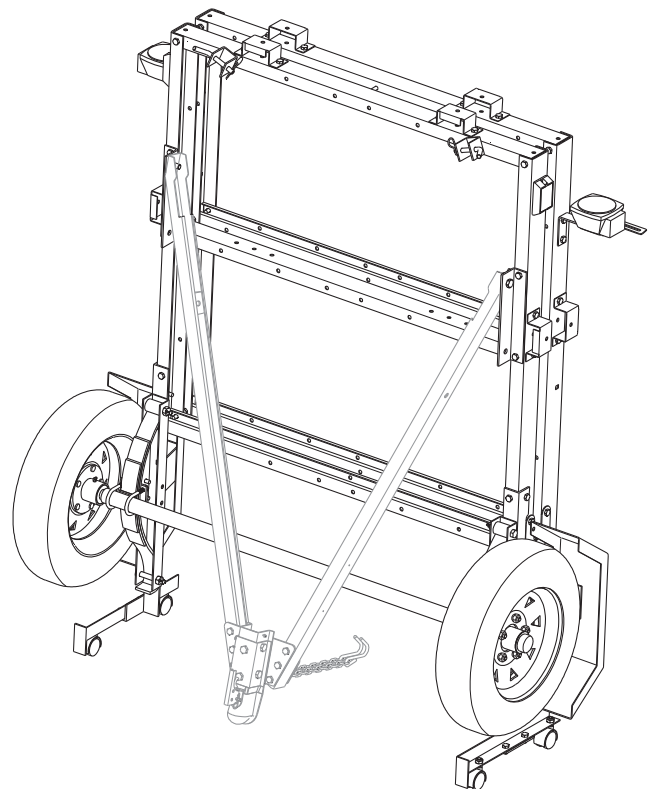

Figure 9: Folding Tongue
6. Remove the two Clevis Pin (34) and R-Pin (47) and fold the Trailer Tongue down. Refer to Figure 9.